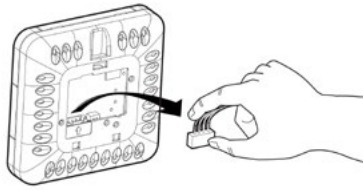

fig. 2p
2. disconnect the 4-pin connector from the front part (Fig. 2p);